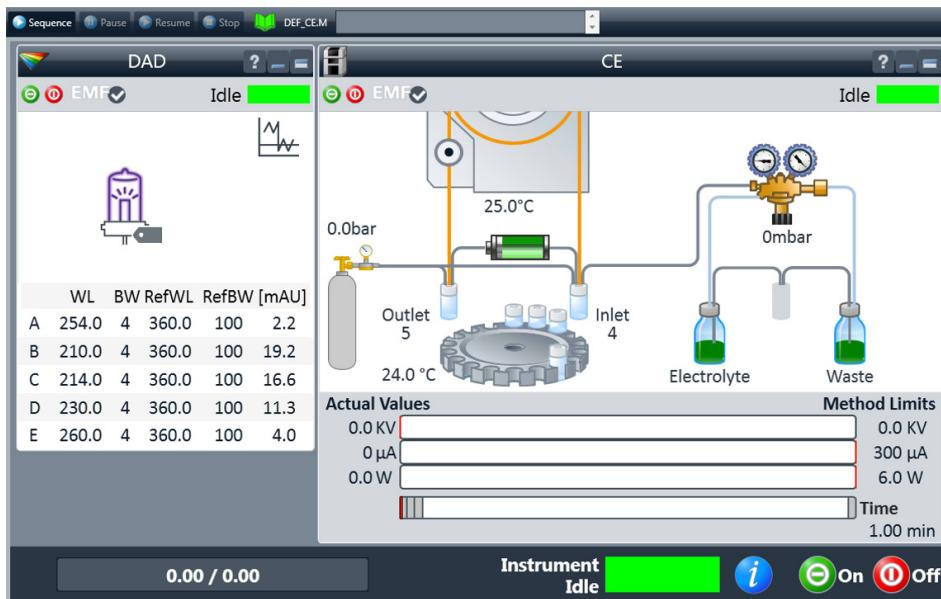
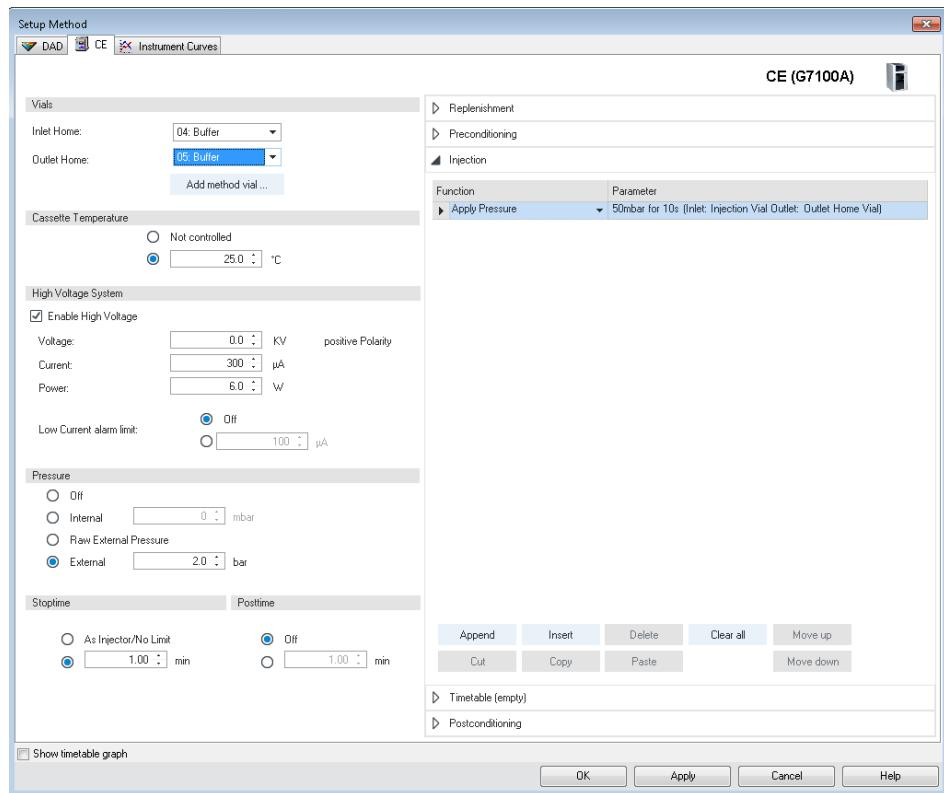

Figure 50 CE diagram with CEC mode activated
Figure 51 CEC setup method screen
- 9 Once the CEC mode is configured a new icon for an external pressure reservoir will appear, see Figure 50.
When the **CEC mode** is selected, a new icon in the form of a gas cylinder appears on the left right side of the CE diagram next to the tray (see Figure 50 on page 173).
When **CEC mode** is selected, a new section for pressure settings appears on the left side of the **Method Setup** dialog box. (see Figure 51 on page 174). The parameter set here is the pressure applied to both vials in the inlet and outlet lift during the electrophoretic run.
High pressure may be applied independently of the method for capillary conditioning or cleaning by clicking right at the external pressure icon in the CE diagram (see Figure 50 on page 173). This will cause a parameter setting field to appear (see Figure 51 on page 174). From this field you may chose to apply pressure to the inlet, outlet or both vials, and also whether to simultaneously apply a voltage of -30 to 30 kV for a given time.